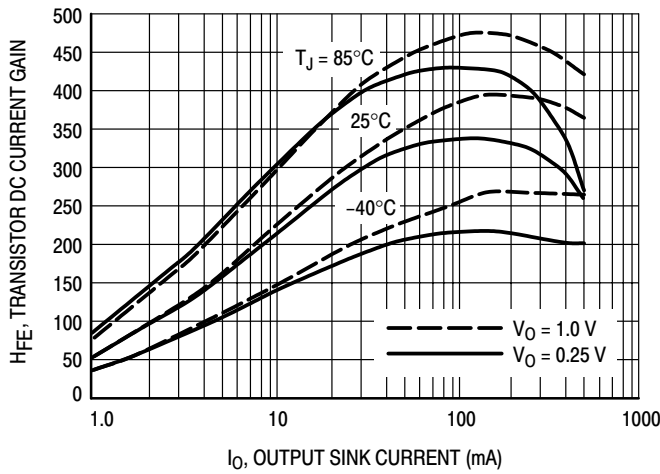

Figure 2. Transistor DC Current Gain
4. While keeping any $V_{O(sat)}$ requirements in mind, determine the max input current needed to achieve that output current from Figures 2 & 6.